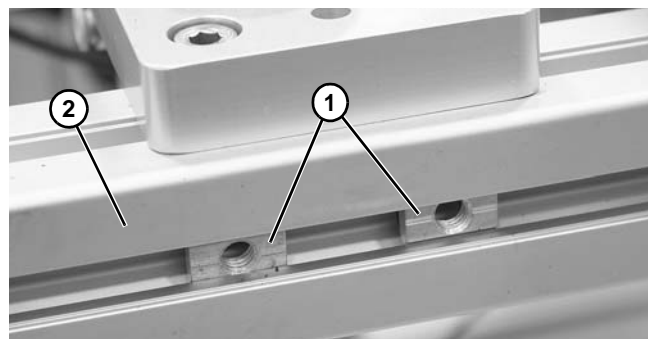

Figure 60
3. Install cam follower nuts (**Figure 60, item 1**) into mounting tube (**Figure 60, item 2**). Repeat for opposite mounting tube.